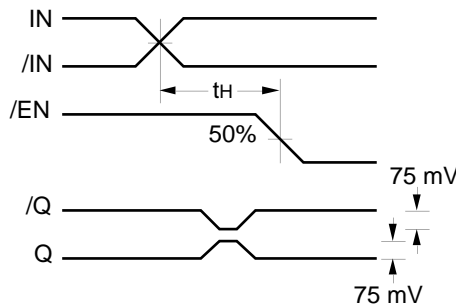

Figure 2. Hold Time
- The hold time is the minimum time that /EN must remain asserted after a negative going IN or a positive going /IN to prevent an output response greater than  $\pm 75\text{mV}$  to that IN, /IN transition (see Figure 2).